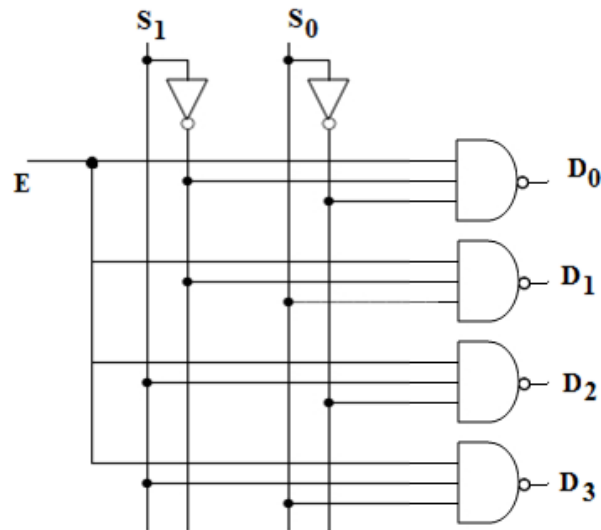

Fig. 2: 1x4 Demultiplexer
1. Connections are made as per the Fig. 2.